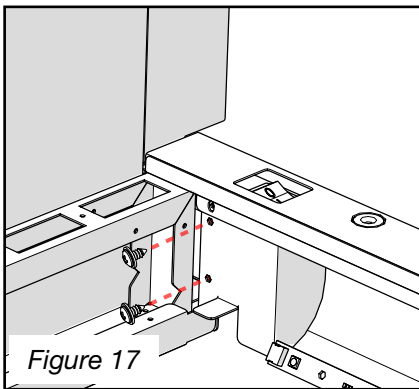

Figure 17
3. Remove the 2 screws on the power switch bracket. (Figure 17)